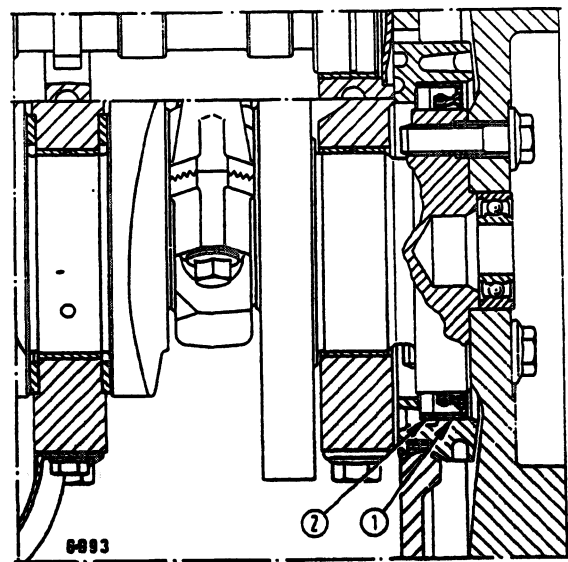

Fig. 87 - Replacement of crankshaft oil seal (1).
REMARK - To replace seal (1, Fig.87) remove, together with old seal, spacer (2). The new seal should be installed without the spacer, in order to avoid that the new seal contact the shaft in the same location of former seal.